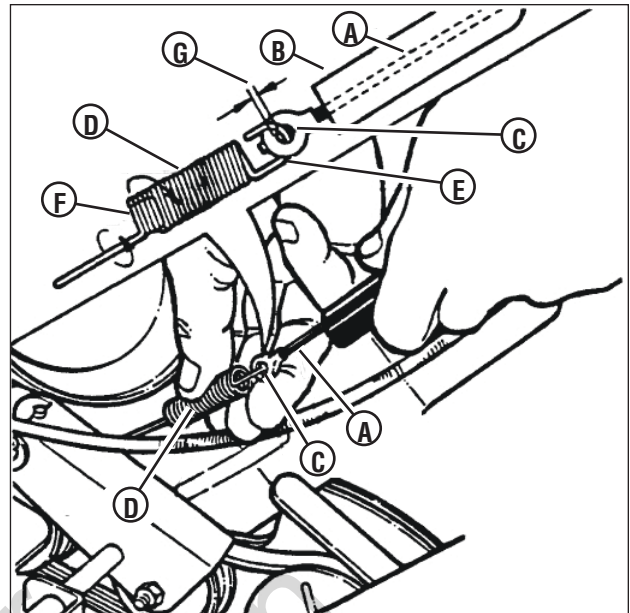

Figure 21: Wheel drive control adjustment
- The wheel drive control is properly adjusted when there is 1/16" to 1/8" clearance (**G**, **Figure 21**) between the inside of the spring hook (**E**) and the inside of the clutch cable eye (**C**) with the wheel drive control released.